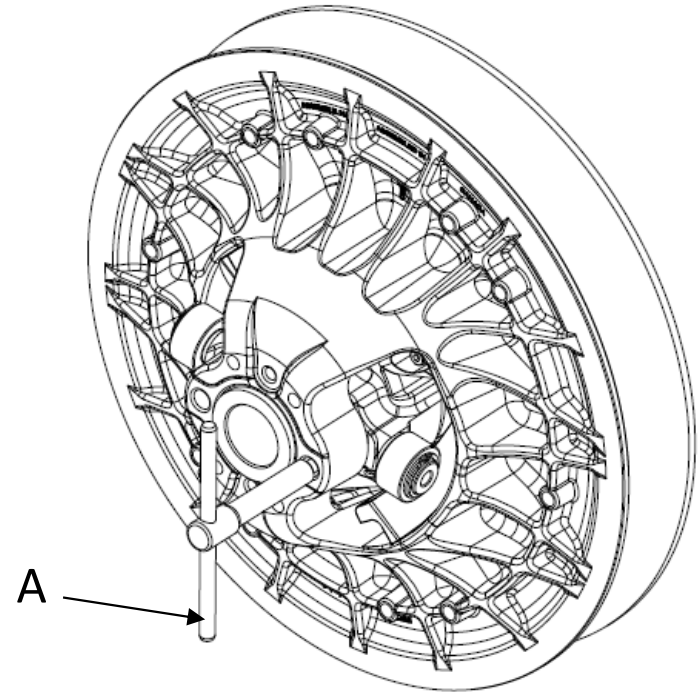

Figure 13
- If the drive belt is installed, screw the flange spreader "A" in the one of threaded holes, as shown in figure 13, to remove the drive belt.